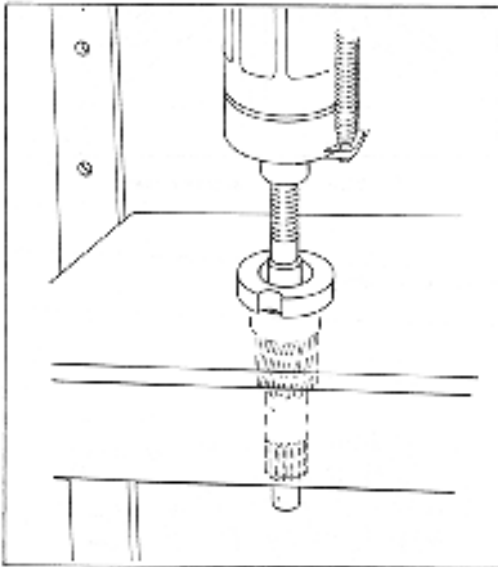

Fig. 33. Extracting Pinion Shaft
- c. With a suitable press, extract the pinion shaft out of the bearing retainer. See fig 33.